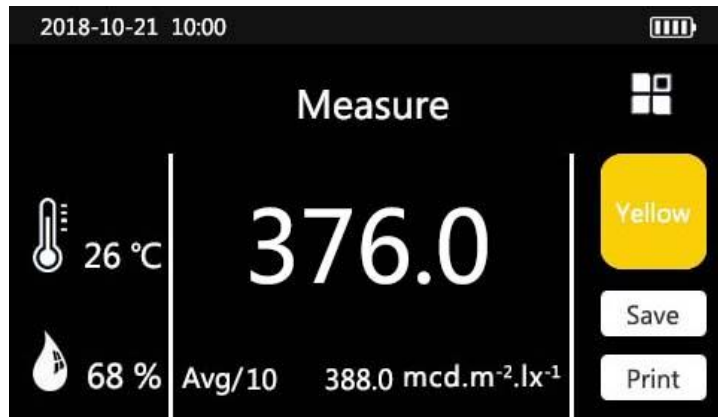

Fig.9
measurements. At the same time, average value of recent multiple measurements can be calculated for reference, as shown in Fig. 9.
1. When saving measured data, click on “Save” button on the on-site measurement interface, as shown in Fig. 9.